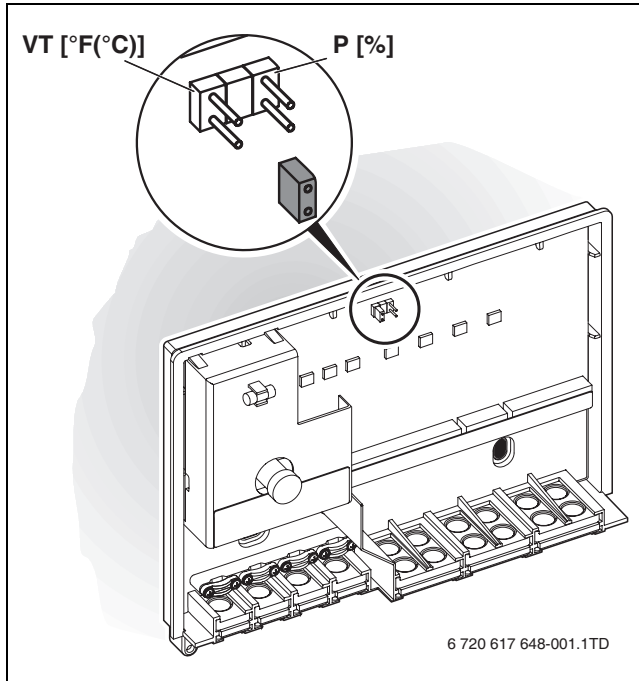

Fig. 4 Setting the jumper
- Set the jumper to the right position (→ fig. 4).
- Set the jumper to the left position (→ fig. 4).